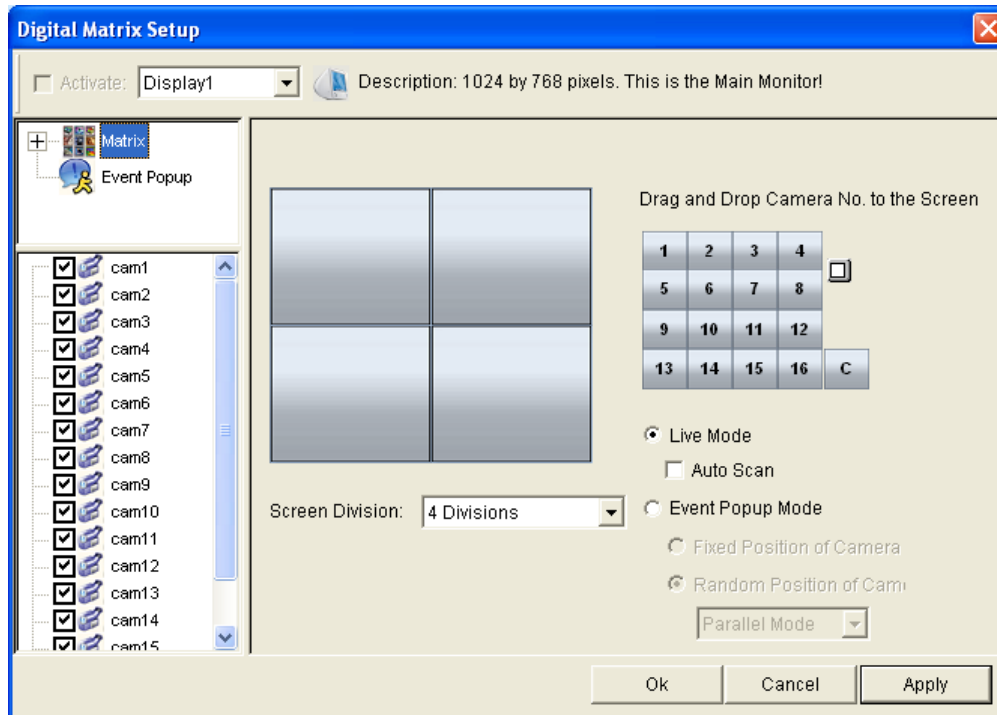

Figure 3-53
9. In the upper-left column, click the **Matrix** icon and return to Figure 3-53.
4. After above settings, click the **Matrix** icon and return to Figure 3-53.
4. Click the **Matrix** icon and return to Figure 3-53. Ensure the **Live Mode** option is selected.